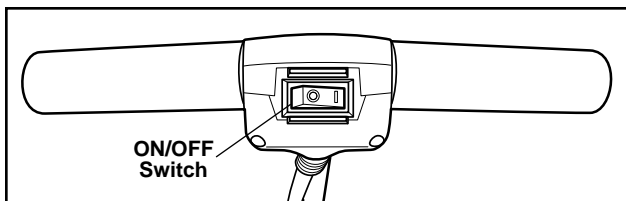

Figure 2. Orbiter® Multi-Floor Machine On/Off switch
The on-off switch is located on the handle. It has been designed to be conveniently activated. On (I) - Off(O) is printed on the switch. (See Figure 2.) BE CAREFUL that the switch is in the OFF (O) position before you plug the electrical cord into the outlet. Before turning the machine on, be sure there is a bonnet pad or brush in place on the machine.